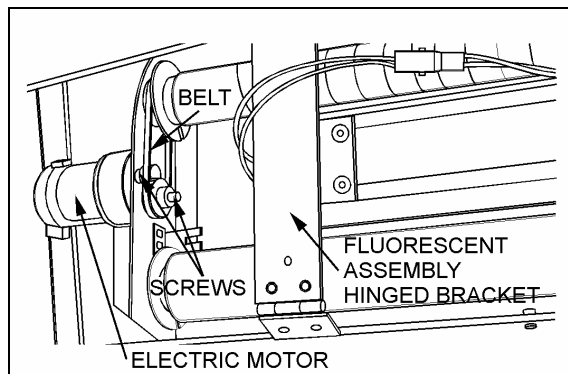

FIGURE 21: DESTINATION SIGN-ELECTRIC MOTOR 23034
3. Remove both screws retaining motor to destination sign frame (Fig. 21).